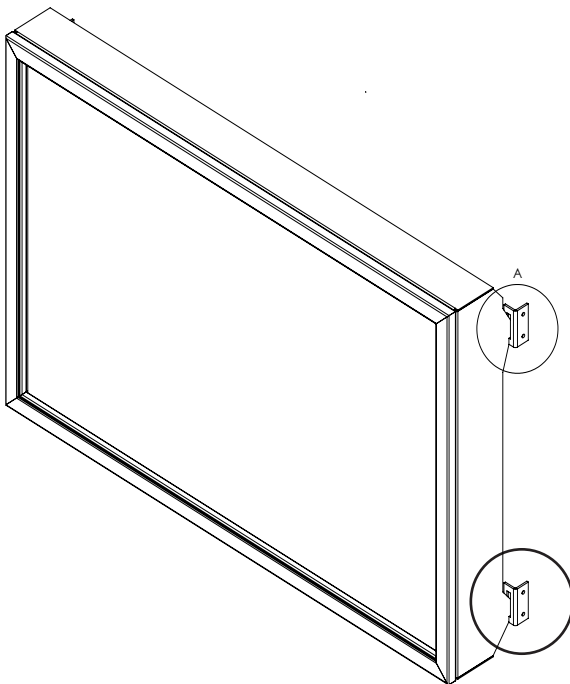

Figure 44: Installing Safety Screen onto Cabinet Bracket (Parts removed for clarity)
2. Lift the face upright in front of the fireplace with the four (4) hooks pointing towards the fireplace. Slide the hooks into the corresponding brackets on each side of the cabinet (see Figure 44). Ensure the hooks are secure before releasing the safety screen.